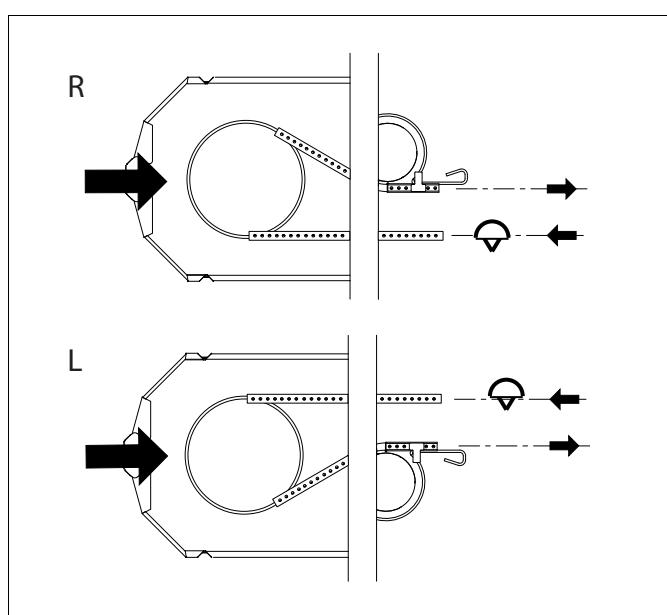

fig. 72 Unit position
2. Put the unit whose pin has to be demounted in the 90° position. See fig. 72.